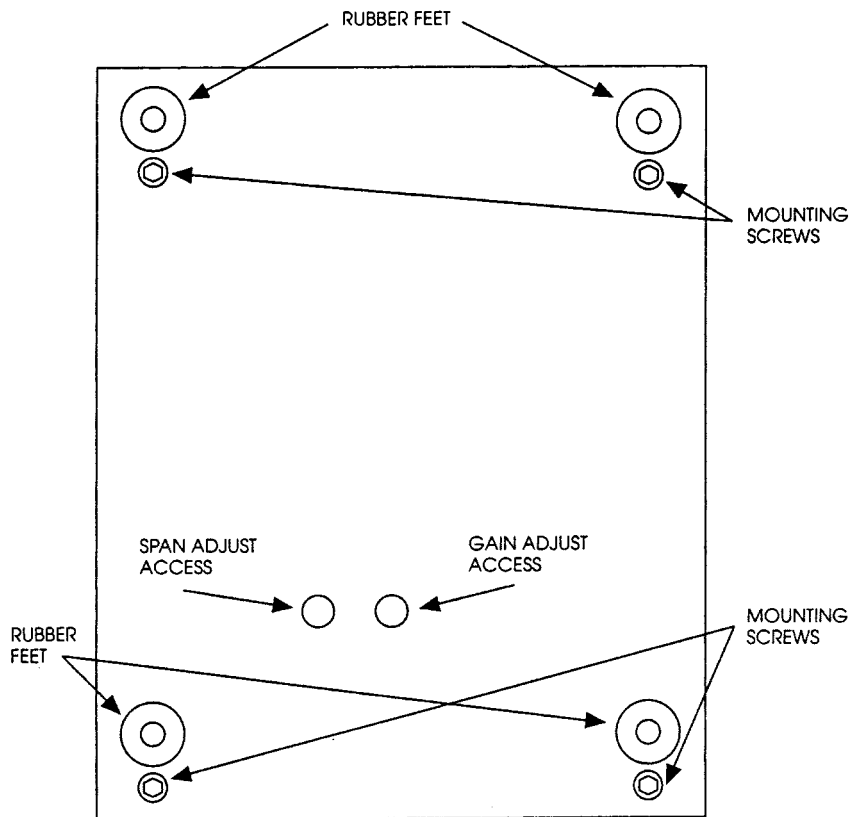

Figure 4: Bottom COver Mounting Screw and Gain/Span Control Access Location
Gain (see Figure 4.)
7. Return the pen to the setting in step “E” with the E potentiometer in the pre-amp circuit. (Figure 4.)
9. Return the pen to the setting in step “E” with the 1 potentiometer in the pre-amp circuit. (Figure 4.)
Span (See Figure 4.)
- G. Remove the Chassis wrap (Figure 4).
- J. Adjust the 500 mV/1/2/5V range calibration potentiometer located on pre-amp PCB (See Figure 4) for 100% + 0.5% pen deflection.